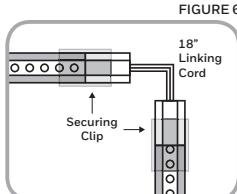

FIGURE 6
- Snap a provided clear securing clip over both connection points of the linking cord to the Bright Strips (see Figure 6).